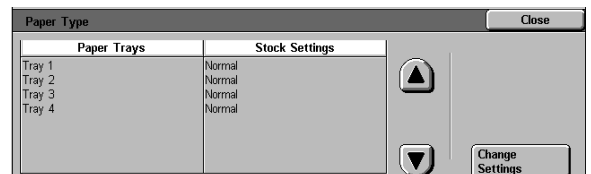

Figure 7: Paper Type screen
- 2 Touch the **Paper Type** button to display the Paper Type screen, as illustrated in Figure 7.